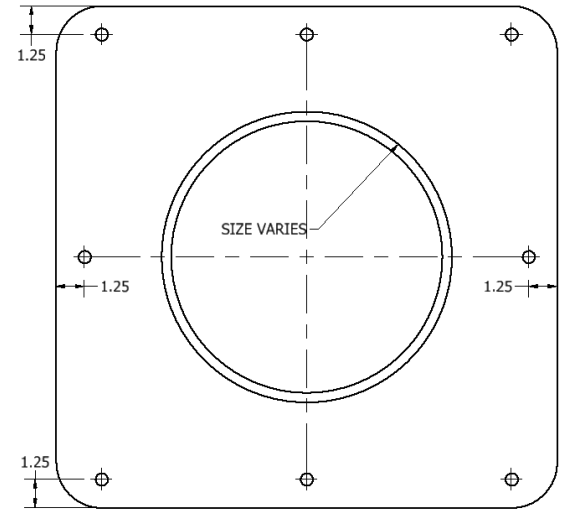

Figure 1
1. Mark locations to drill the holes for the bolts in the dock using **Figure 1** as a reference. Dimensions shown in **Figure 1** are approximate and may be adjusted for field conditions. Using a 9/16" drill bit, drill all the holes required. Mount internal stabilizer/pile guide to the floating dock using (8) 1/2" STAINLESS STEEL HEX HEAD BOLTS (length to be determined based on mounting location), (8) 1/2" STAINLESS STEEL FLAT WASHERS on top, (8) 1/2" STAINLESS STEEL FENDER WASHERS below, and (8) 1/2" STAINLESS STEEL LOCKNUTS. See **Figure 1**.